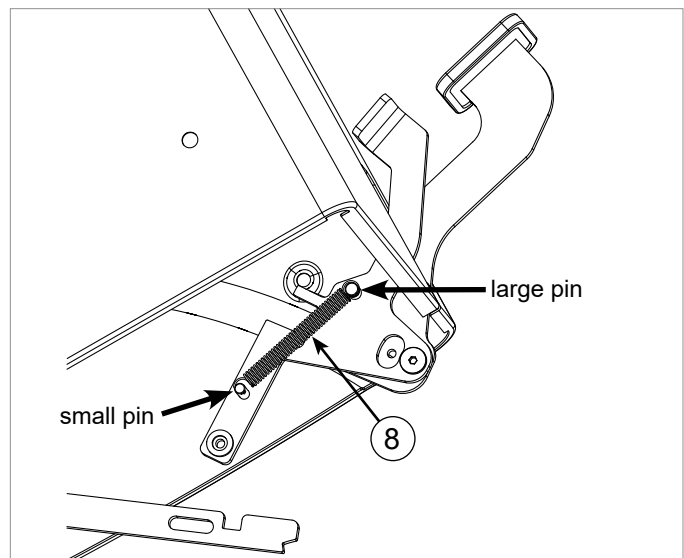

Fig. 31
13. Remove the extension spring from the hardware pack and attach one end of the spring to the small pin in the pedal assembly by sliding one end of the spring through the hole in the small pin. Stretch the other end of the spring over the large pin in the pedal assembly (see Fig. 31). There is a circular groove on the large pin to hold the spring in place.